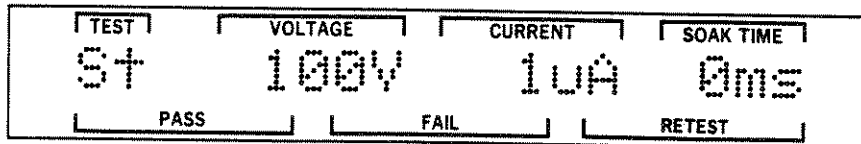

Figure 7-63. Stress Test Conditions Screen
- STEP 17. Press the LEFT pushbutton twice to return to the Check Test Conditions screen. Press the UP pushbutton once to display the Stress Test Conditions. Figure 7-63 is an illustration of this screen.